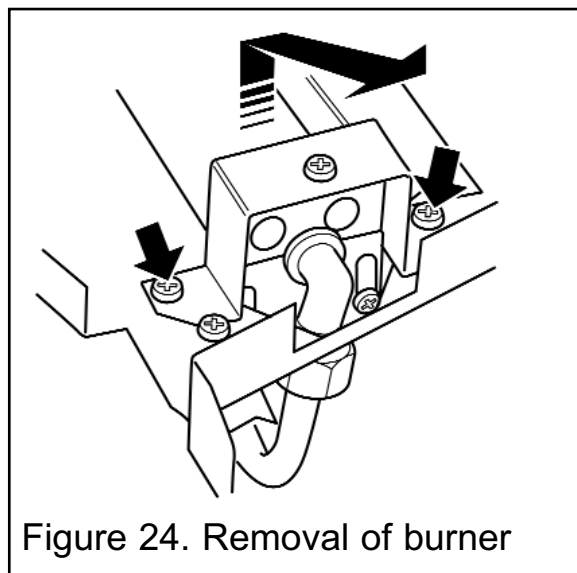

Figure 24. Removal of burner
3. Remove the two screws from the burner clamping plate (See figure 24).